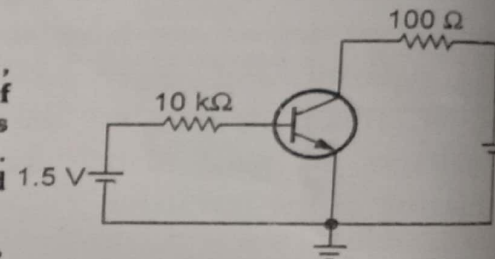

Fig. Q.47.1
Q.47 Determine I_B , I_C , I_E , V_{CE} in the circuit of Fig. Q.47.1. The transistor has a $\beta = 150$. Assume $V_{BE} = 0.7 \text{ V}$. Also draw DC load line and show Q-point.